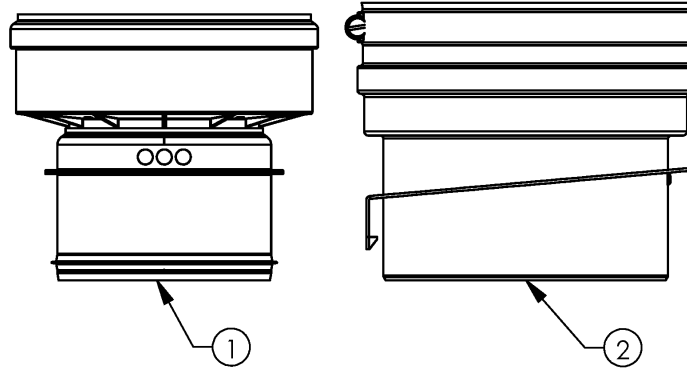

Figure 2. PVC COMMON VENT KIT (251 TO 500 MODELS) (ONE KIT NEEDED FOR EACH HEATER)
- The adapters shown in **Figure 1** (page 5) and **Figure 2** (page 6) must not be modified.